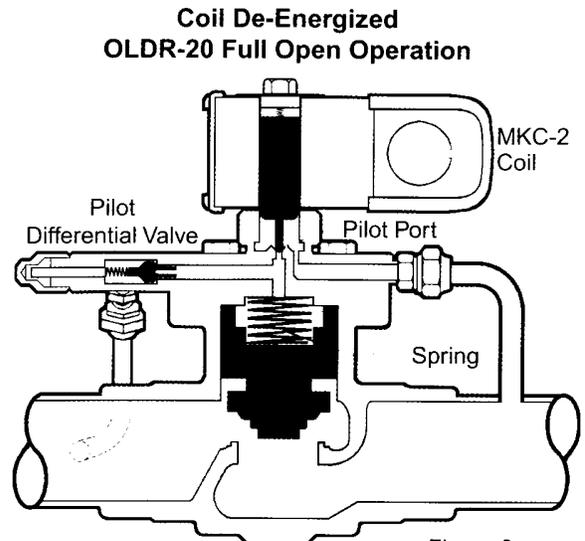

Figure 3
**In the fully open mode**, the pilot port is closed. This stops the flow to the chamber above the main piston. The refrigerant above the main piston is bled to the outlet through an orifice in the pilot differential piston. The inlet pressure then moves the piston up and the valve opens. *(See Figure 3 on page 10-2.)*